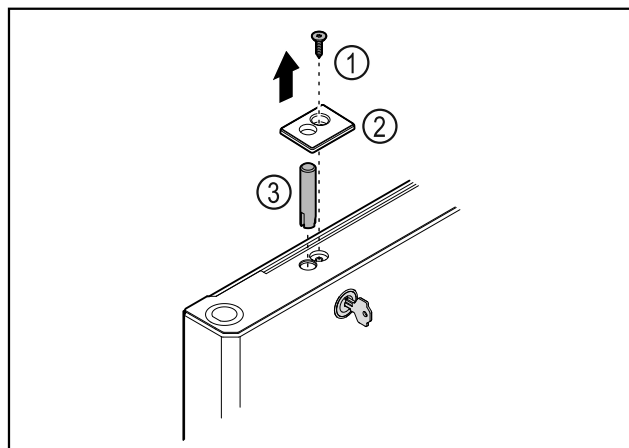

Fig. 33
- Remove the screw Fig. 33 (1).
- Unlatch the cover Fig. 33 (2) with a small screwdriver and remove it.
- Pull out the lock bolt Fig. 33 (3).